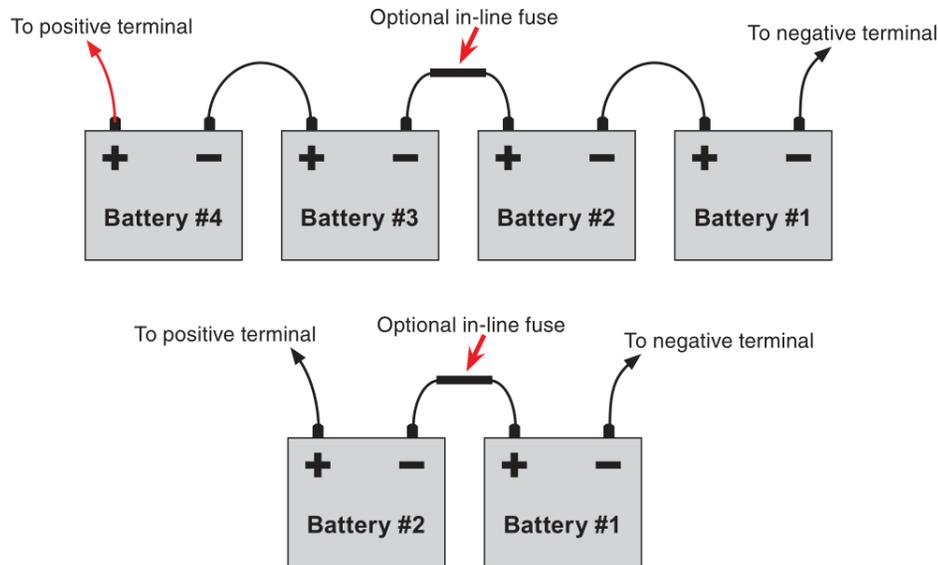

Figure 8 — External Battery Wiring (for 48 Vdc string (top) and 24 Vdc string)
NOTE: The optional in-line fuse option shown in Figure 8 on page 18, is available as part number SPB98-645- 1, Kit, FuseUpgrade, 100A.
3. Connect the batteries as shown in Figure 8 on page 18. If used, install the in-line fuse as shown.